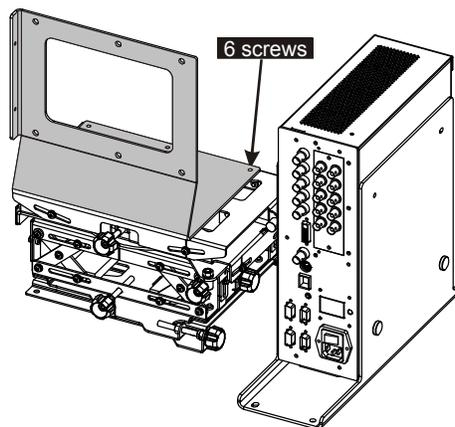

FIGURE 2-4 INSTALL CONFIGURATION BRACKET TO ADJUSTER BASE
5. Align the shorter end of the L-shaped bracket with the mounting holes in the adjuster base, as shown in Figure 2-4 Install configuration bracket to adjuster base.
6. Secure the bracket to the adjuster base with the (6) M4 screws used to secure the light engine.